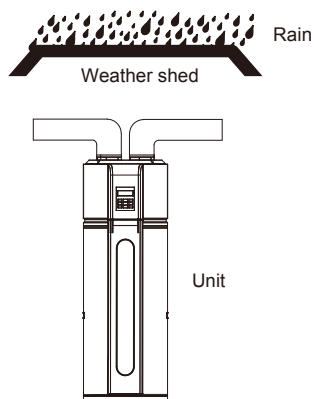

Fig.3-7
- In terms of the unit connects with duct reaching to outdoor, a reliable water-resistant measure must be conduct on the duct, to prevent water from dropping into internal of the unit. (Fig.3-7)